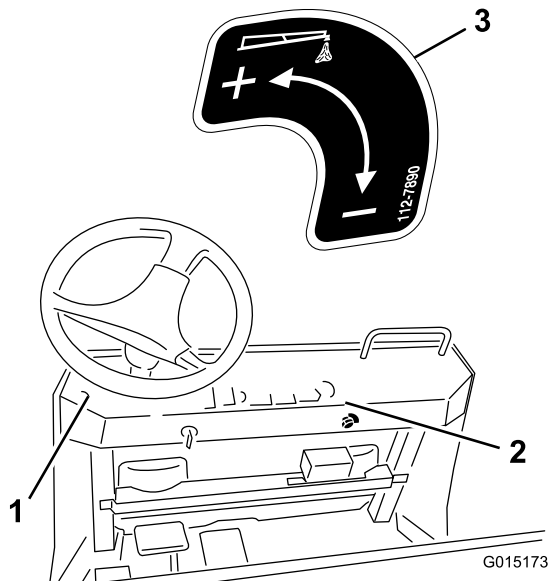

Figure 5
10. Install the decal as shown in Figure 5.